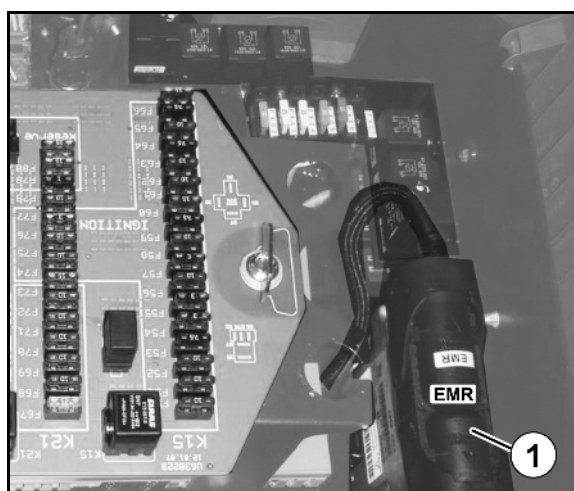

Fig. 133
- Disconnect the EMR plug (Fig. 133/1) from the controller in the central electrics in the cabin on the right side under the armrest next to the cabin.